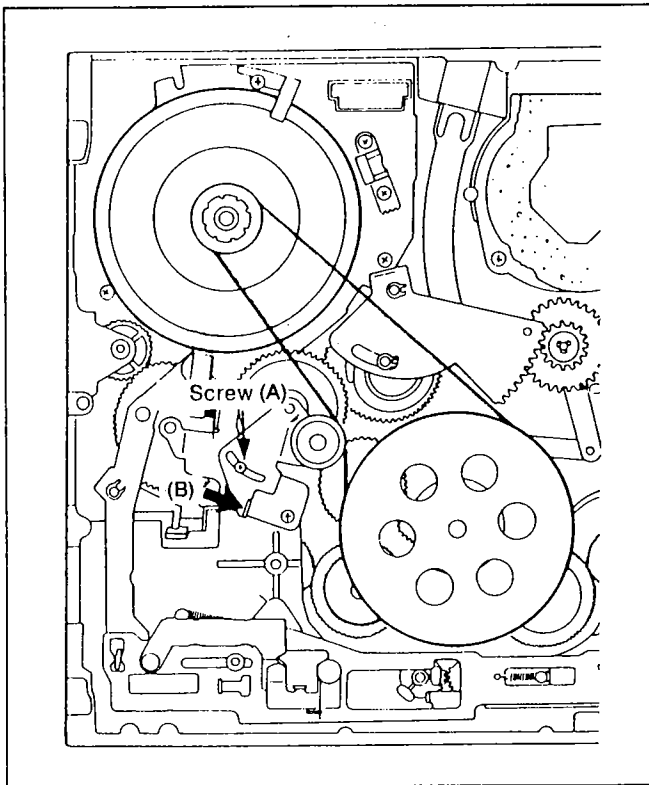

Figure M24
1. Loosen a screw (A) slightly by using the screwdriver.
2. Set the Fan Type Tension Gauge to the direction indicated by the arrow (B) as shown in Figure M24.
3. Tighten a screw (A) when the reading of the Fan Type Tension Gauge becomes within 40g +/- 5g.